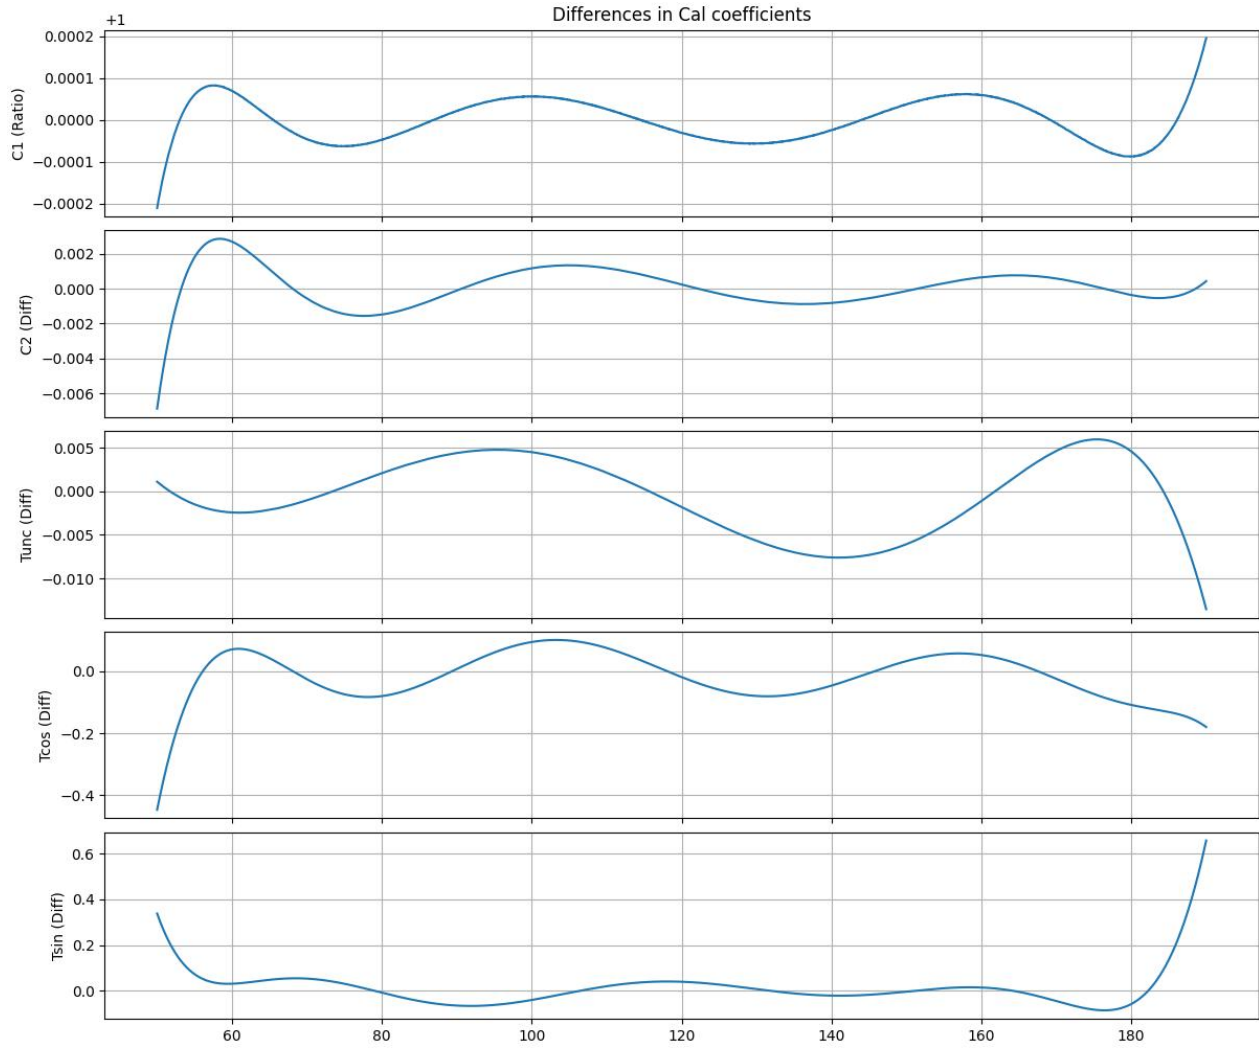

Figure 7: Difference in calibration co-efficients obtained from Alan’s pipeline and `edges-cal`.
- Figure 7 shows difference in calibration coefficients obtained from each pipeline